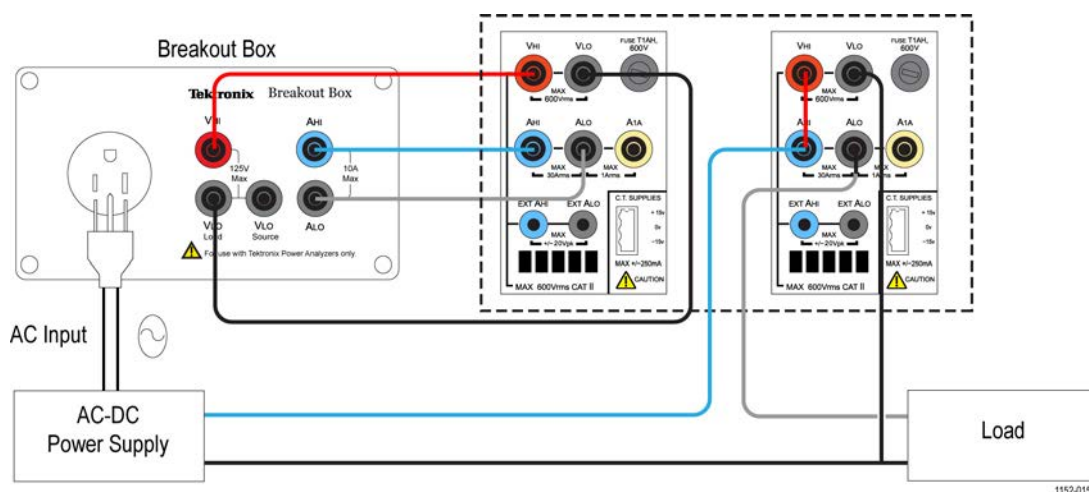

Figure 38: AC-DC efficiency measurement wiring diagram
1. Connect the AC input on the device under test (DUT) to the first channel of the PA3000 using a Tektronix Breakout Box (BB1000) as shown in the wiring diagram. (See Figure 38 on page 105.)